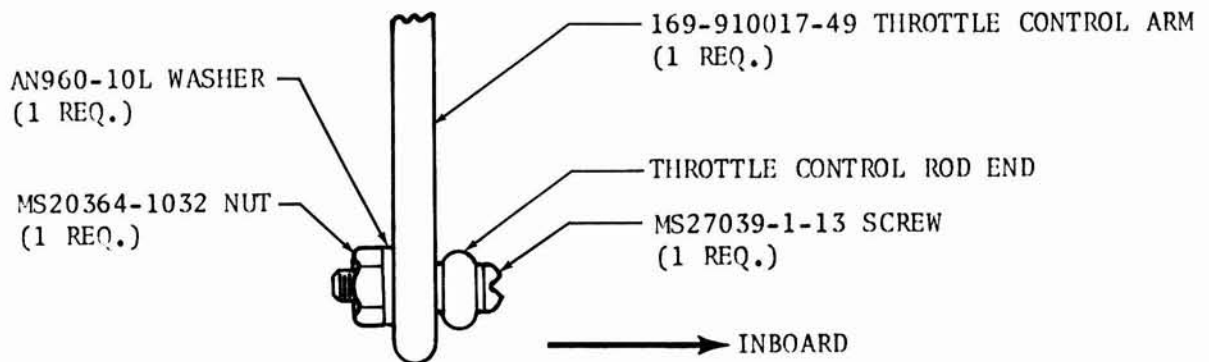

Figure 2. Installation of 169-910017-49 Throttle Control Arm
- Attach the throttle control rod end to the 169-910017-49 throttle control arm with an MS27039-1-13 screw, an MS20364-1032 nut, and an AN960-10L washer. (See Figure 2.)
Install the throttle control rod end and the head of the MS27039-1-13 screw on the inboard side of the 169-910017-49 throttle control arm as shown in Figure 2 to prevent possible interference with the landing gear warning horn switch bracket.